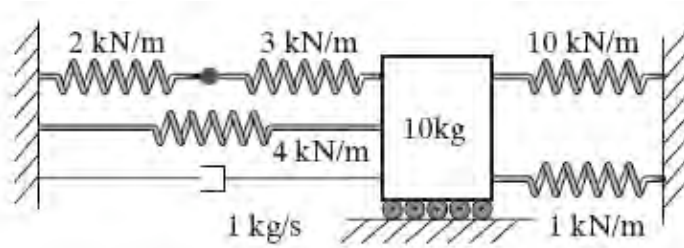

Figure P1.73
- 1.73** Repeat Problem 1.72 for the system of Figure P1.73.